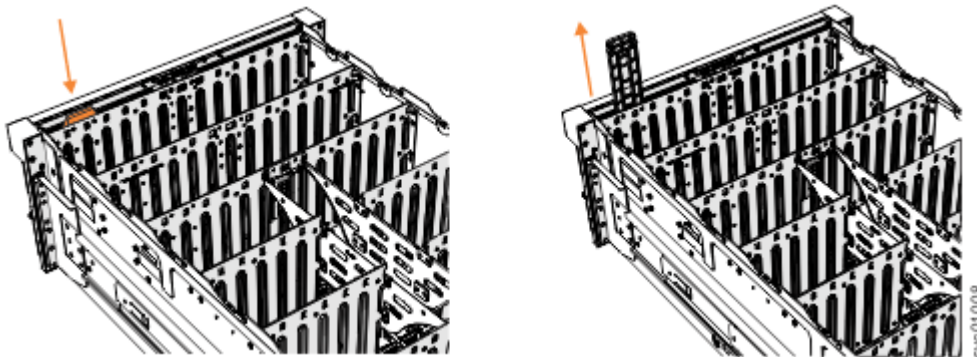

Figure 106. Removing the display panel assembly
3. Press the release tab at the top of the display panel assembly, as shown in Figure 106 on page 101.